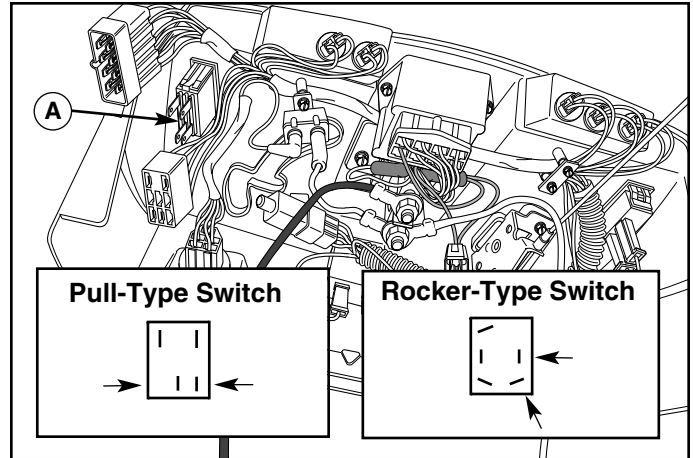

Figure 22. PTO Switch Testing
1. Turn the PTO switch (A, Figure 22) OFF.